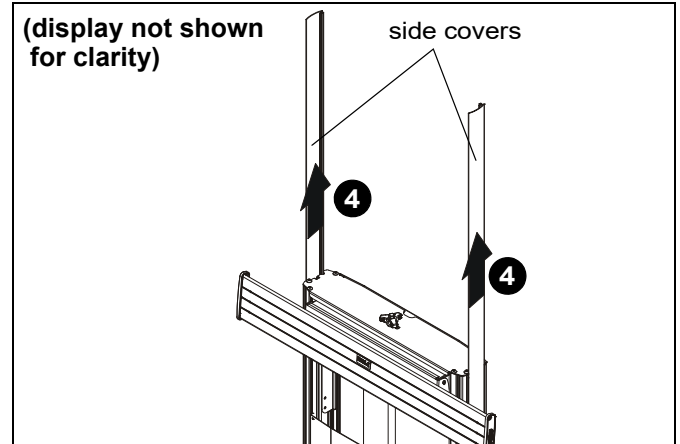

Figure 3
4. Remove side covers from cart/stand by sliding them up the channel. (See Figure 3)